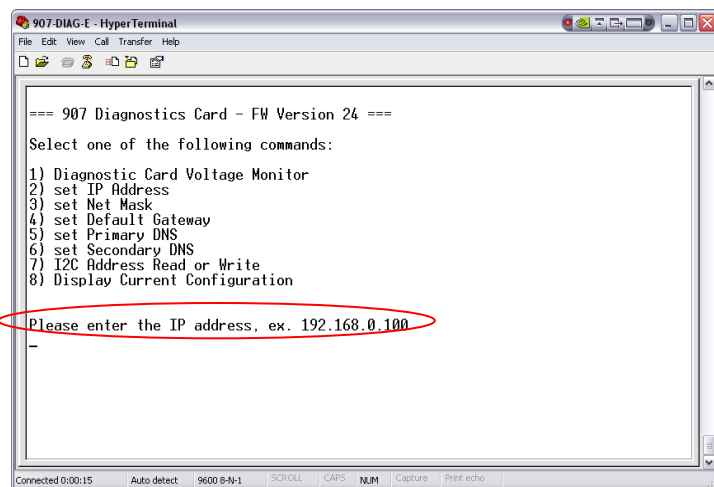
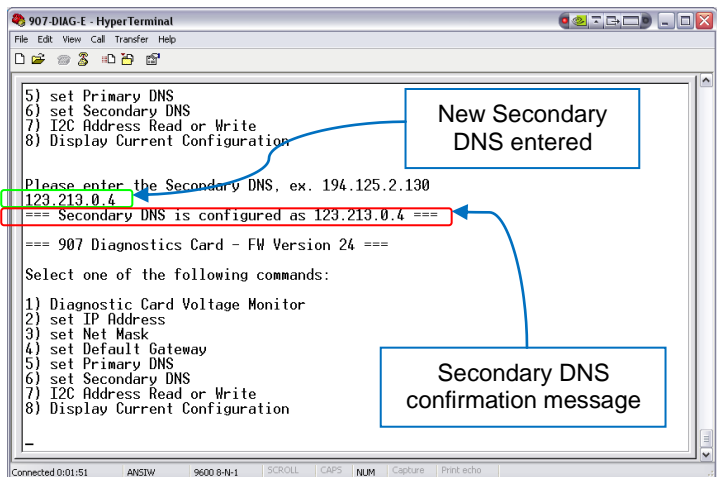

Figure 4-4: Set IP Address Menu
Figure 4-13: Set Secondary DNS Response
Menu items 2 to 6 are used for 907-DIAG-E diagnostic card Ethernet port configurations. Details are shown in Figure 4-4 through Figure 4-13.